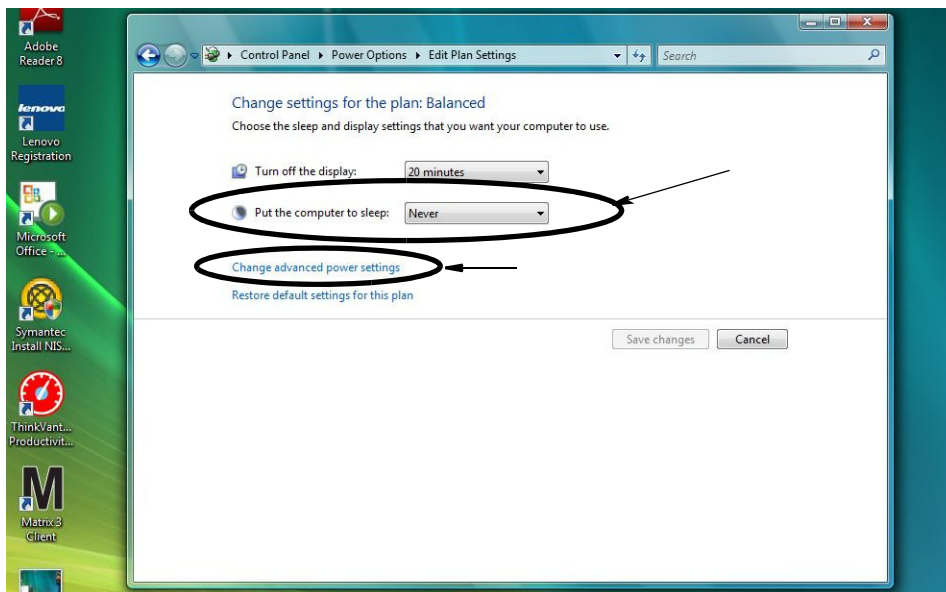

FIG. 49
4. Change the “Put the Computer to Sleep” field to NEVER. Then select the “Change Advanced Power Settings” (FIG. 49).